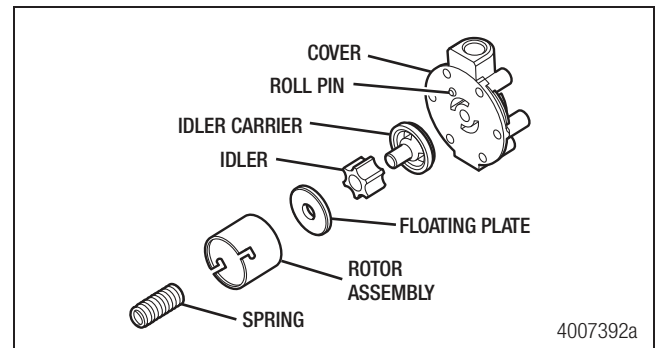

Figure 5.12
- b. Gently tap the idler carrier out of the rotor. The idler and floating plate will come out with the idler carrier. Figure 5.12.